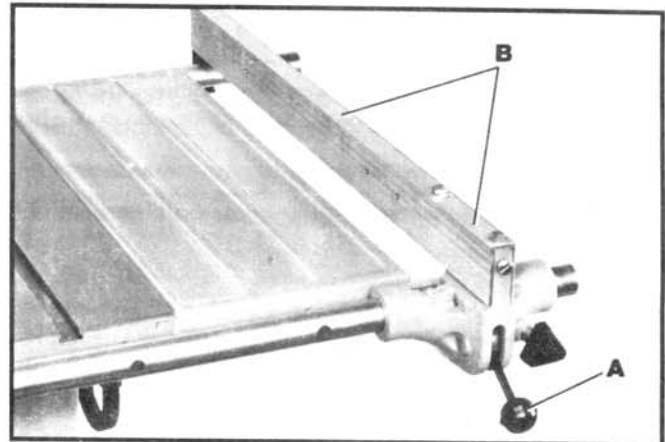

Fig. 35
1. Make certain the lock handle (A) Fig. 35, of the rip fence assembly (B) is in the up position.
2. Assemble the rip fence assembly (B) to both the front and rear guide rails, as shown in Fig. 35.
3. Lock the rip fence (B) Fig. 35, on the guide rails by pushing down on lock handle (A).